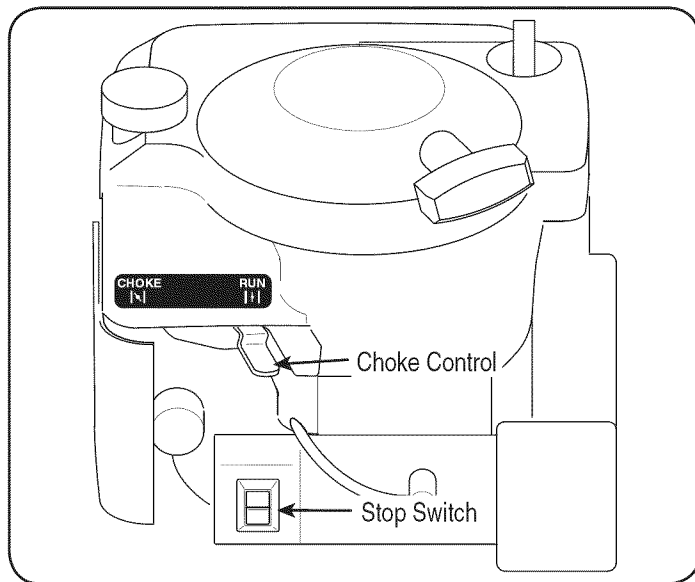

Figure 9
3. Push the stop switch to the ON position. See Figure 9.
4. Move the choke lever to the CHOKE  position. (A warm engine may not require choking.) See Figure 9.
1. Push the stop switch to the OFF position. See Figure 9.